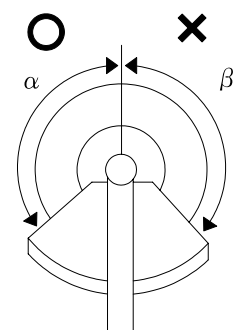

Fig.3-5
- Cut brush with the arc  $\alpha$  on the cutting blade. If the arc  $\beta$  on the rotating blade hits a solid object, a cutting blade running at high speed will thrust toward the operator, creating a very dangerous situation. (Fig.3-5)